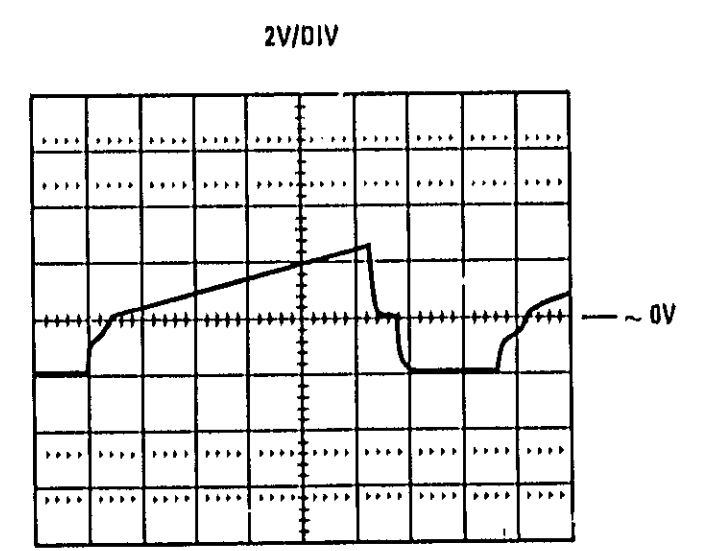

Figure 8-48. Delay Compensation (A6TP6)
2. Press **INSTR PRESET** to sweep the entire range of the plug-in. Check TP12 for the waveform shown in Figure 8-48. This represents the voltage (not the current) across the YO's main coil, and will give an indication as to whether current is passing through the coil. If this waveform is correct, suspect the YIG oscillator. Refer to the RF Section Service Sheet.